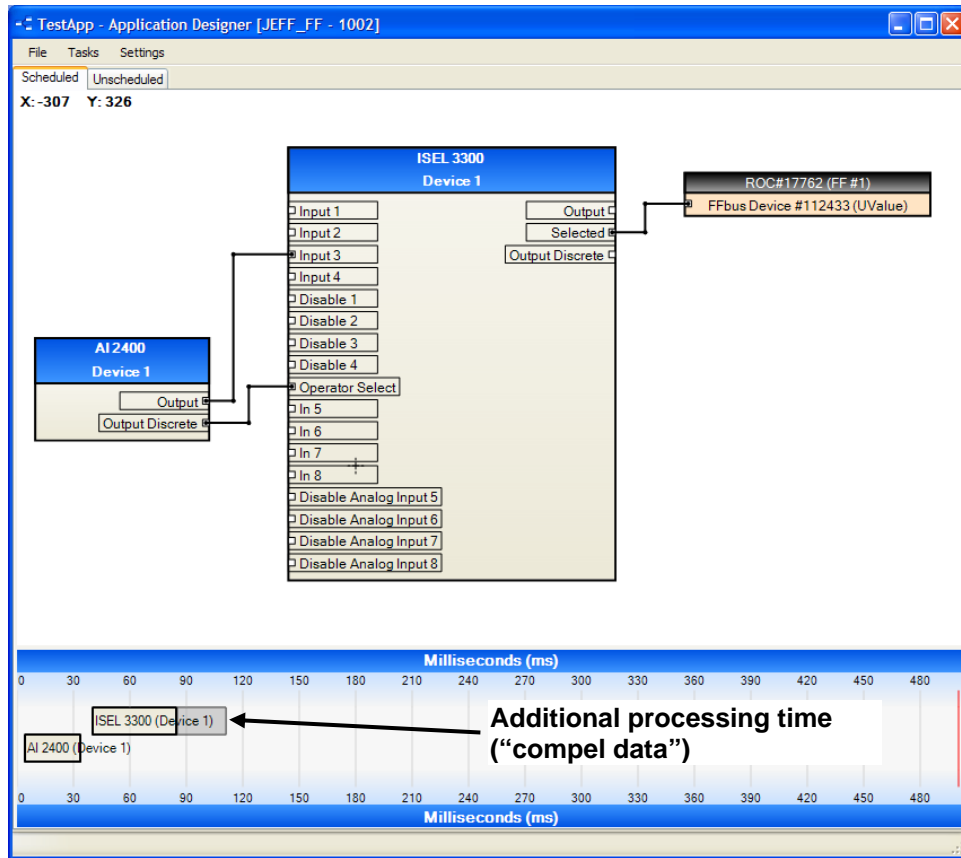

Figure 4-13. Connected ROC Logical
6. Move the ROC logical into position on the workspace and connect it to the ISEL 3300 (see Figure 4-13).